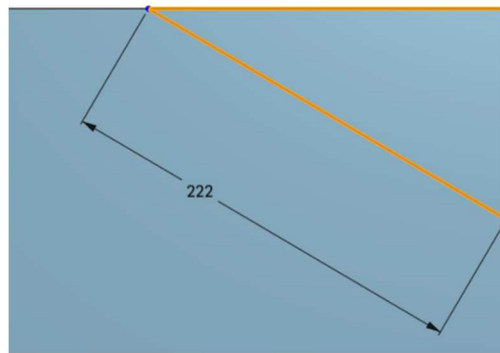

Figure 2.14: Sketching a right angled triangle at the corner of the body.
- 9) Exit the sketch if you haven't by clicking ok (). Then select the “Variable” tool (), select “Number” tab and create a variable (figure 2.11) called “angle” with “20” as the “Value”. This should now appear on your “Features” list on screen right. Move this variable above the extrude in the list (figure 2.14)